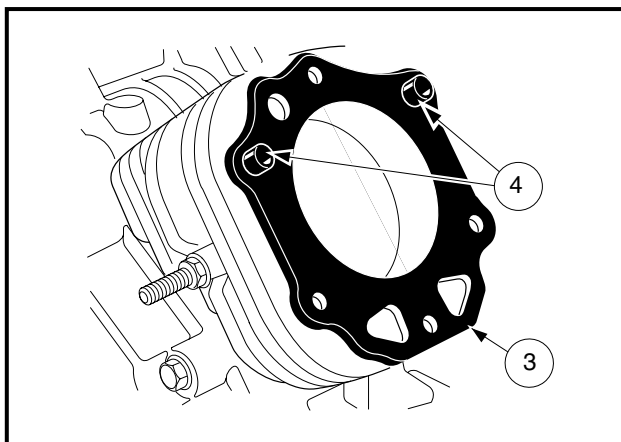

Figure 2-8 Head Gasket
2. Remove head gasket (3). Note the position of the two dowels (4) as shown (**Figure 2-8, Page 2-7**).